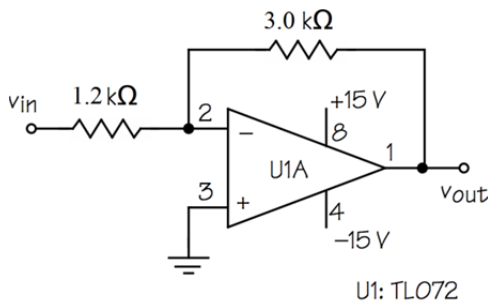

Figure 1: Operational Amplifier Circuit 1
1. For the circuits in Figures 1 and 2, what type of op amp is it? What is the gain? What is the output for  $v_{in} = 2\text{ V}$ ? What is the output for  $v_{in} = 6.5\text{ V}$ ?